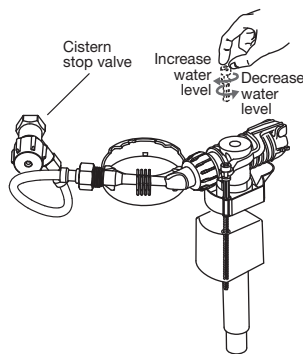

Fig. 4
- 5- Fit cistern stop valve (supplied) to the 1/2 inch B.S.P. nipple in the wall using approved thread seal, in the downward angled position as detailed in **Fig. 4**. Connect one end of flexible hose to cistern stop valve.
- 9- Adjust water level to the 4.5 litre water level mark inside the cistern by simply turning the float arm screw in a clockwise or anti-clockwise direction, as detailed in **Fig. 4**.